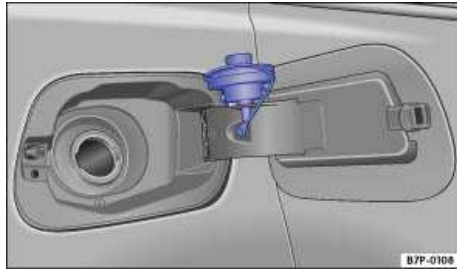

Fig. 306 Fuel cap placed on the open fuel filler flap.
- Unscrew the fuel filler cap counterclockwise remove. Use the receptacle on the filler flap hinge to hold the cap while refueling ⇒ fig. 306.
⇒ fig. 306.